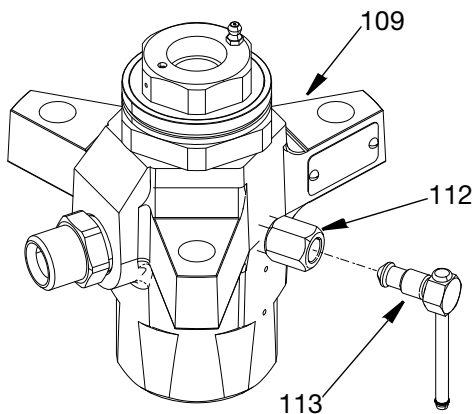

FIG. 15
- Unscrew plug (113) completely from valve housing (112). Clean valve threads and bleed hole. it is not necessary to remove the valve housing from the outlet housing (109). See FIG. 15.